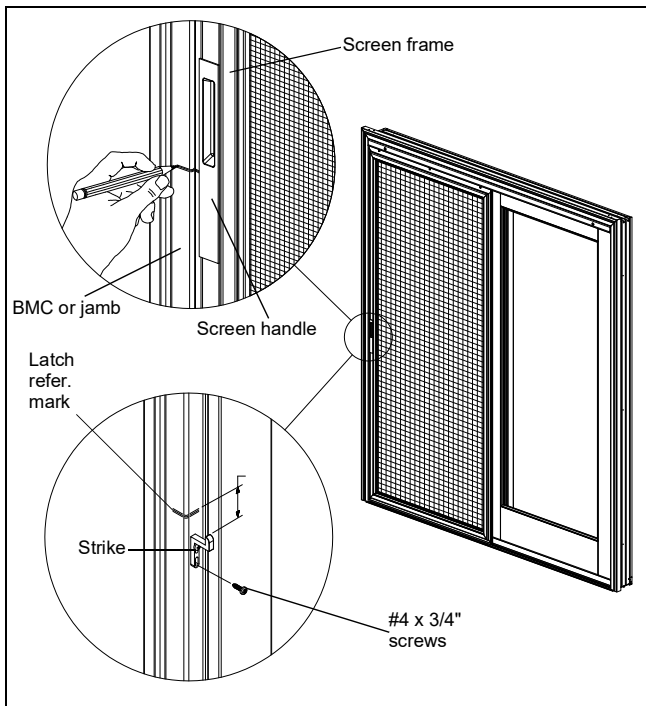

Figure 6
2. Open and slide the screen out of the way. Position strike on the jamb $1/8"$ (3) below the latch reference mark. Center the strike on the jamb so that it will fall between the interior and exterior of the screen. See figure 6. Mark the center of each screw slot on jamb. Drill pilot holes with a $3/32"$ (2) drill bit. Place the strike on jamb and fasten with the two $\#4 \times 3/4"$ pan head screws at the center of the adjustment slots. Close screen and check latch operation. Raise or lower the strike as needed. See figure 6.